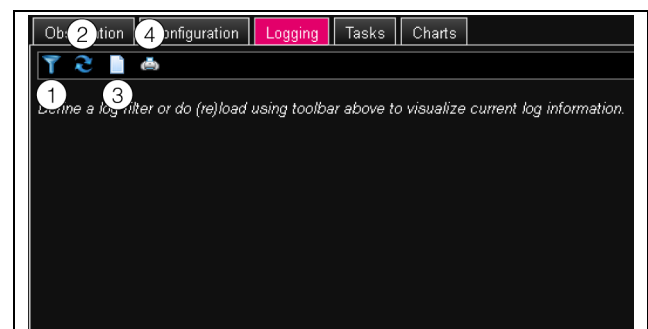

Fig. 46: Logging tab
■ Click the first symbol on the left (fig. 46, item 1).
■ Click the second symbol on the left (fig. 46, item 2).
■ Click the fourth icon from the left (fig. 46, item 4).
■ Click the third symbol on the left (fig. 46, item 3).